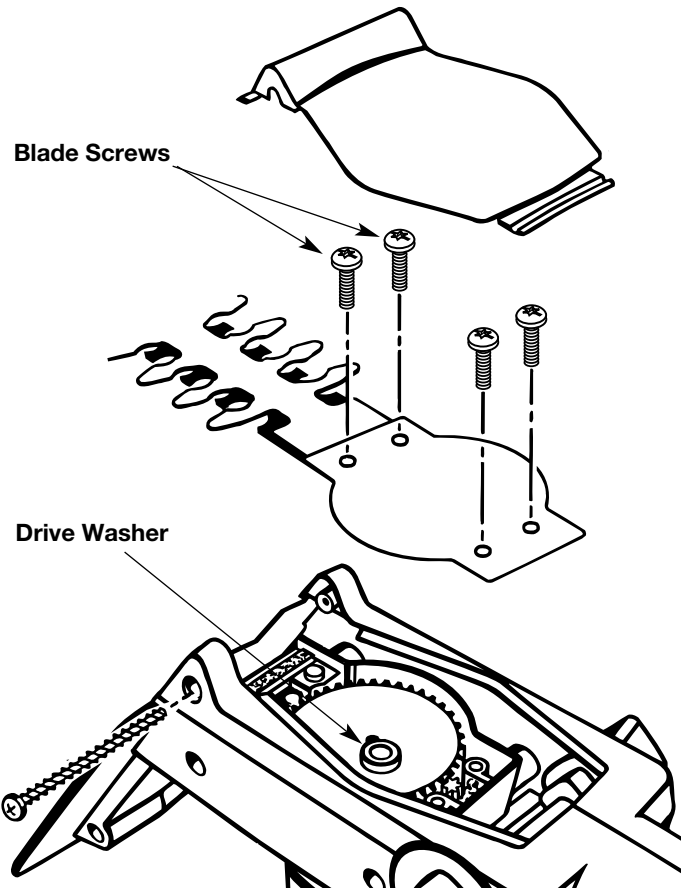

Fig. 11
3. Remove blade screws (Fig. 11).
5. Make sure drive washer remains installed on drive pin (Fig. 11).